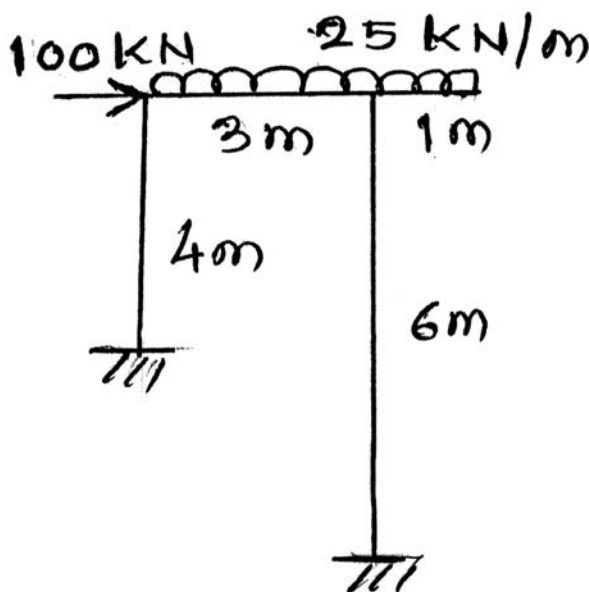

Fig. 2, Q. 9(b)
- b) Derive the stiffness matrix and write the equilibrium equations in matrix form for the frame loaded and supported as shown in fig 2. 6